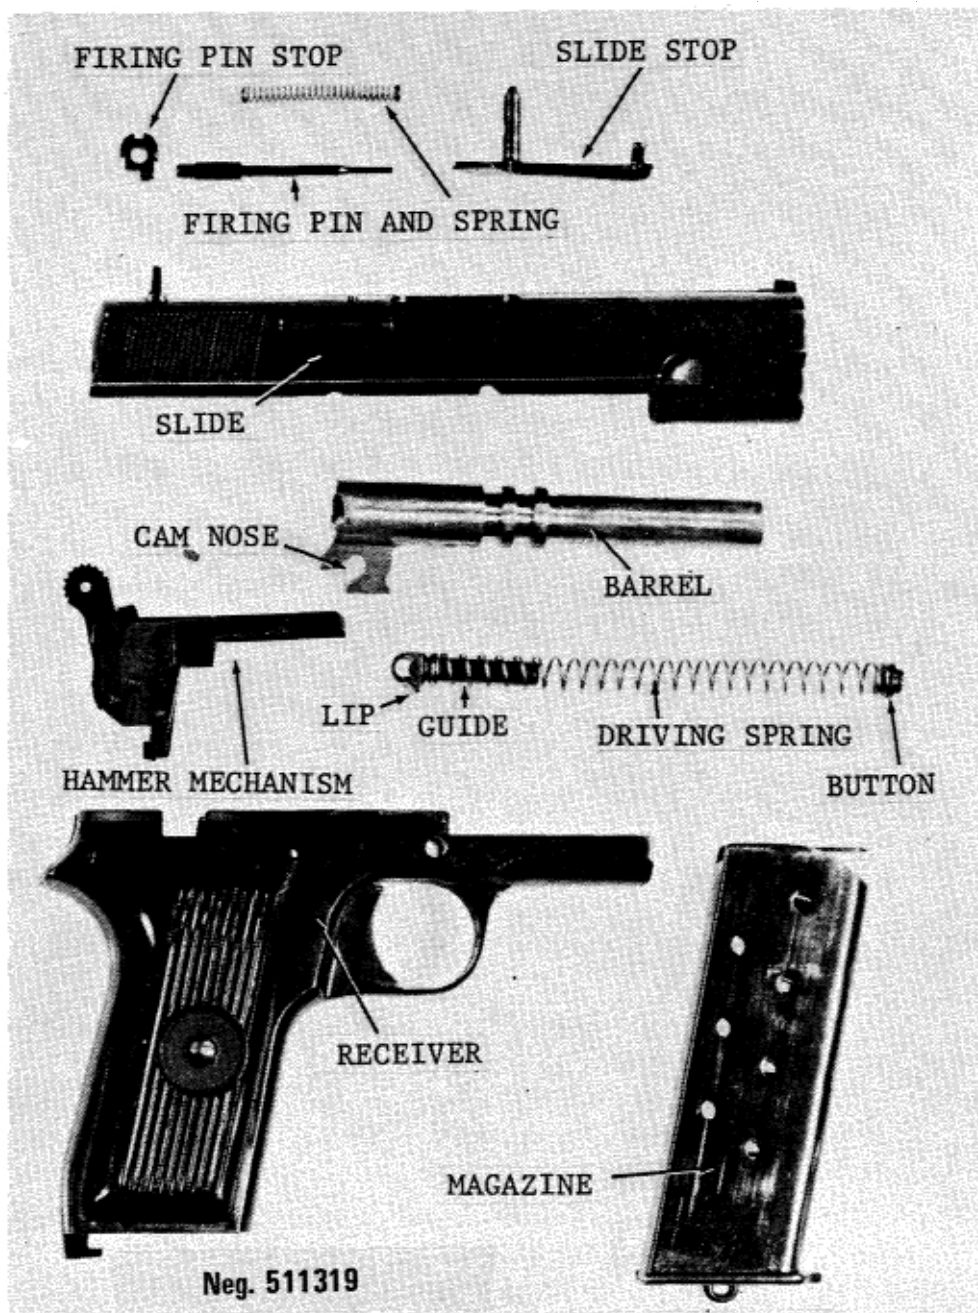

Figure 20. Type 68 disassembled.
b. Draw the slide rearward until the end of the slide stop is aligned with the half-round notch in the slide. Hold the slide in position and press out the slide stop pin (from right to left); this operation requires some practice. Pull the slide stop out of the pistol. Pull the slide forward and off the receiver (fig 20).
barrel back until it drops into locked engagement with the slide. Insert the button (fig 20) on the driving spring into the tunnel on the slide, and engage the guide with the barrel. The lip on the guide must point away from the barrel (fig 20).
c. The barrel is locked to the slide by ribs (machined into the outer surface of the barrel) that mesh with grooves in the slide. A lug on the bottom rear of the barrel rides on a transverse pin in the receiver. As the barrel moves to the rear in recoil, while locked to the slide, a cam nose on the barrel lug (fig 20) contacts the transverse pin and